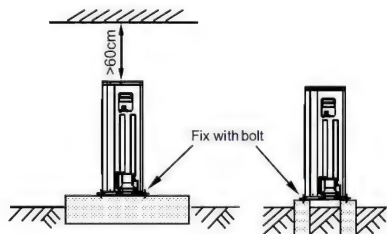

Fig.6-6
- Make concrete foundation according to the specifications of the outdoor units.(refer to Fig.6-6)
- Fasten the feet of this unit with bolts firmly to prevent it from collapsing in case of earthquake or strong wind.(refer to Fig.6-6)